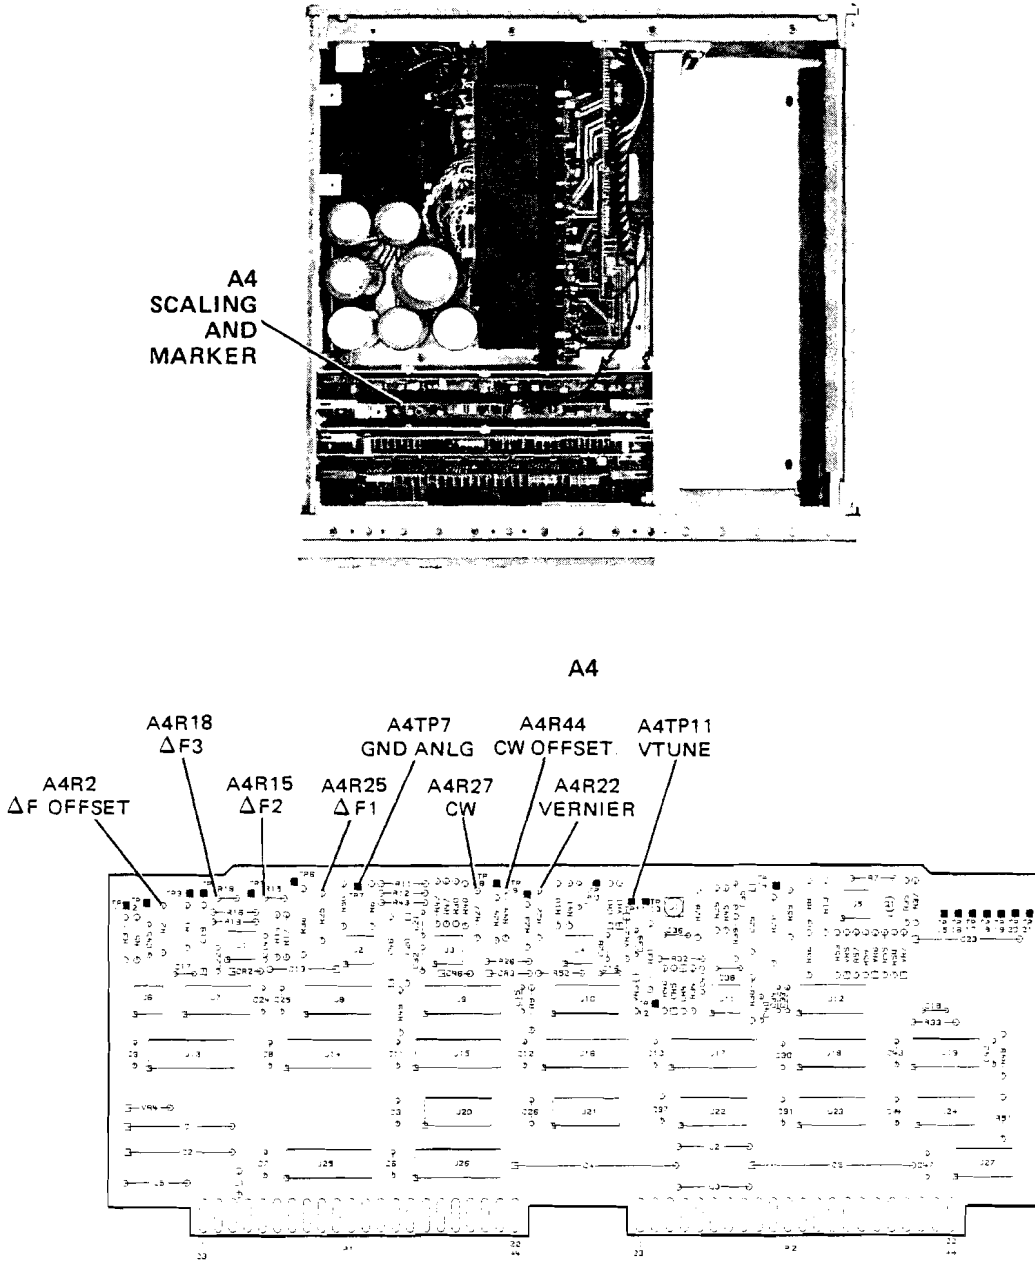

Figure 5-17. Location of Frequency Control Adjustments.
7. Adjust A4R44 CW OFFSET for a DVM reading of -0.20508 ± 0.00002 Vdc. Refer to Figure 5-17 for adjustment location.
9. Adjust A4R22 VERNIER for a DVM reading of -0.19492 ± 0.00002 Vdc. Refer to Figure 5-17 for adjustment location.
13. Remove A4/A5 shield cover and adjust A4R27 CW for a DVM reading of 10.2000 ± 0.0001 Vdc. Refer to Figure 5-17 for adjustment location.
15. Adjust A4R25 ΔF1 for a DVM reading of 10.2000 ± 0.0001 Vdc. Refer to Figure 5-17 for adjustment location.
17. Adjust A4R2 ΔF OFFSET for a DVM reading of -0.2000 ± 0.0001 Vdc. Refer to Figure 5-17 for adjustment location.
21. Adjust A4R15 ΔF2 for a DVM reading of 4.35064 ± 0.00005 Vdc. Refer to Figure 5-17 for adjustment location.
23. Adjust A4R18 ΔF3 for a DVM reading of 4.91883 ± 0.00005 Vdc. Refer to Figure 5-17 for adjustment location.